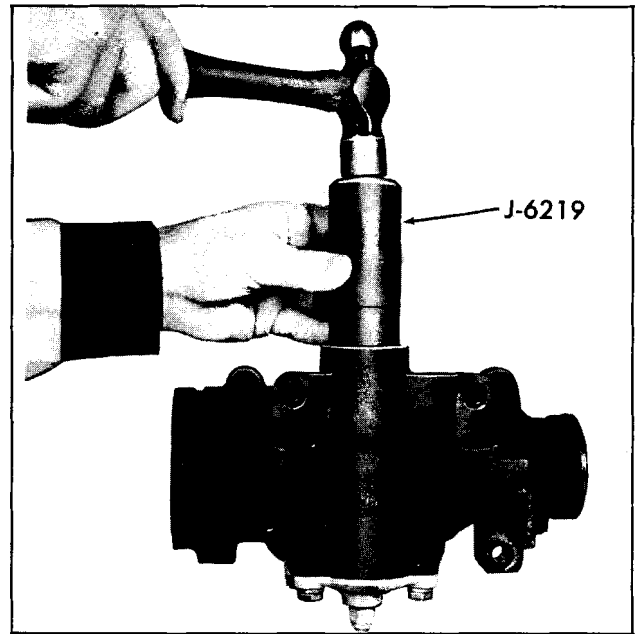

Fig. 9-78 Installing Pitman Shaft Seals Using Tool J 6219
1. Lubricate the seals thoroughly with power steering fluid to install seals with J 6219 (Fig. 9-78).